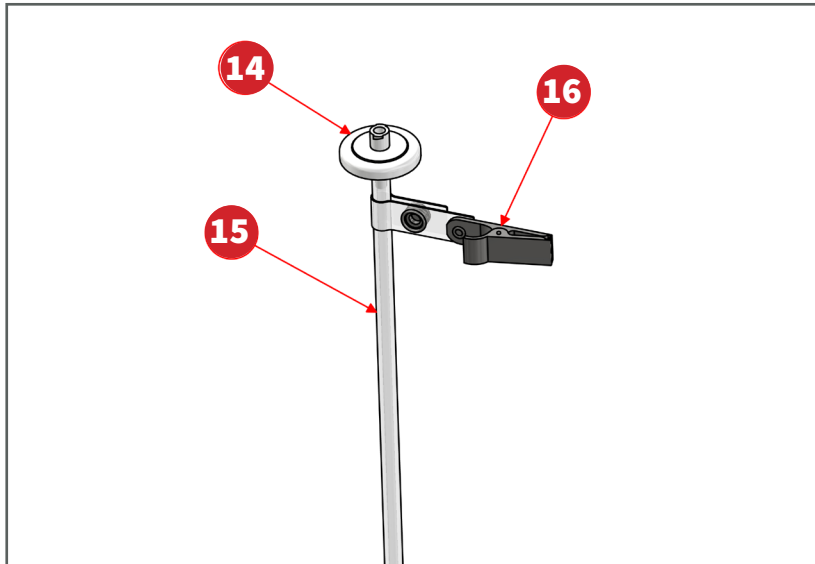

Figure 6: Breathing zone sampler
- A breathing zone inlet that clips to your clothing for industrial-hygiene monitoring. (See figure 6)